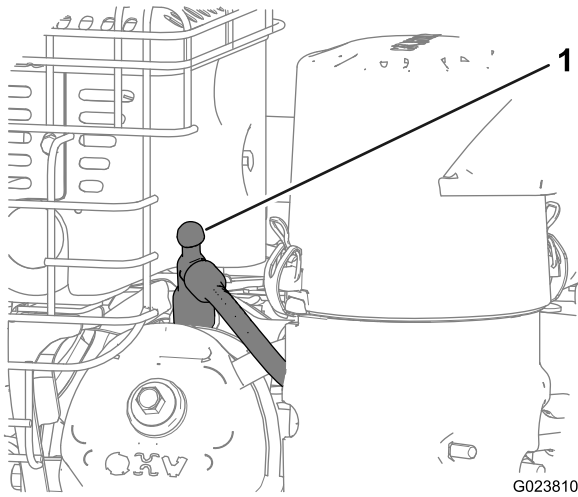

Figure 18
3. Disconnect the spark-plug wire from the spark plug (Figure 18).
1. Disconnect the spark-plug wire from the terminal of the spark plug (Figure 18).